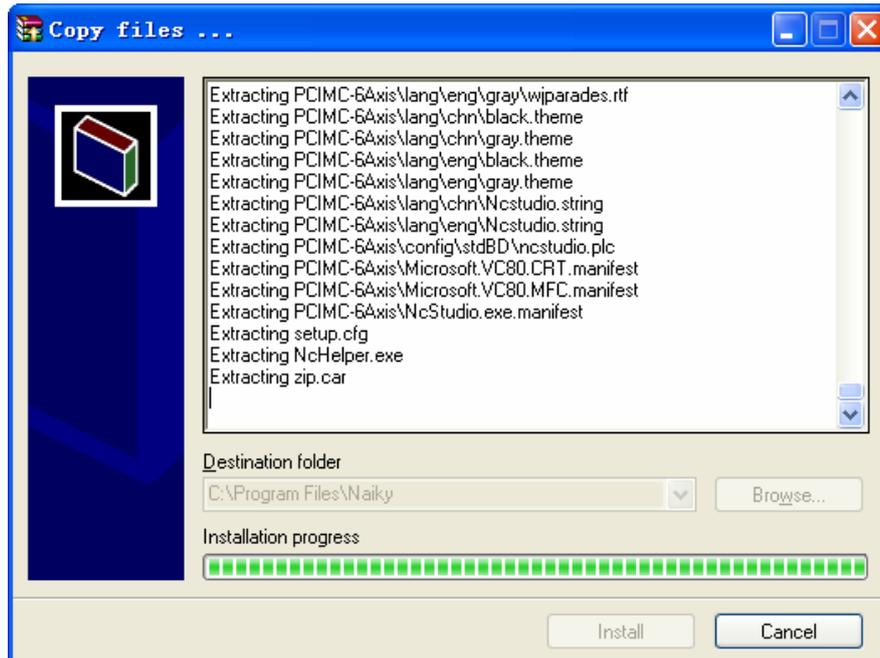
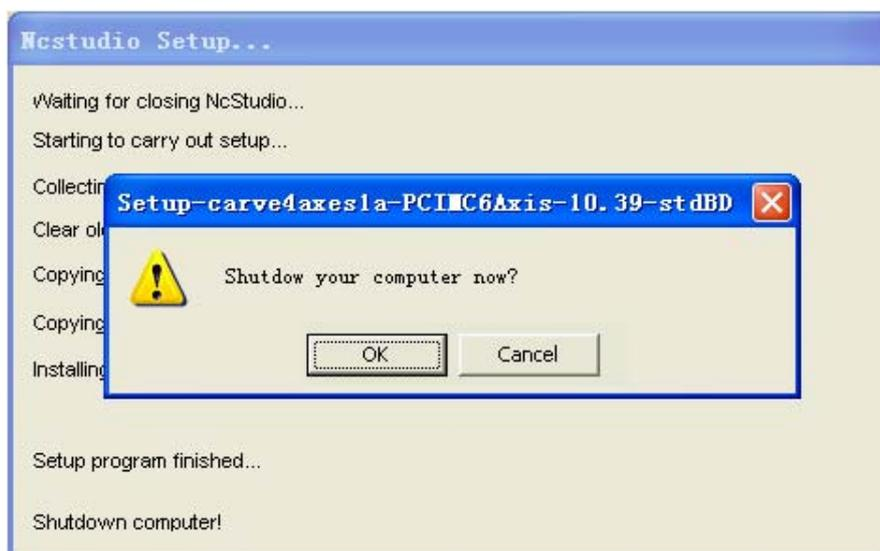

Fig. 2-4 Software Installation Interface
Fig. 2-5 Whether to close the computer at once (suggest operation: Yes)
- Click [Yes (Y)]. Installation begins. Ncstudio will be installed to the default directory, C:\Program Files\Naiky. Installation progress bar will show you the installation speed. See Fig.2-4. After installation, prompt will remind user whether to shut down the computer (We recommend to close the computer, and then to install the control card. See Fig.2-5.